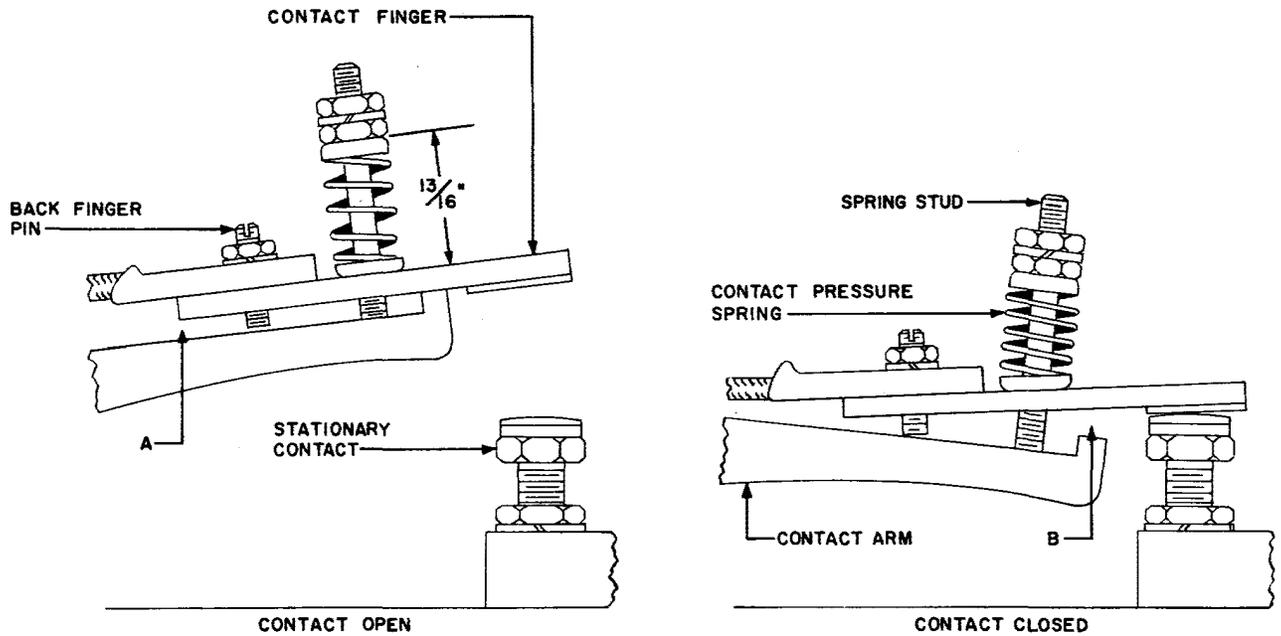

Fig. 5 – Contact Adjustment for Butt-Type Main Contacts —
(3) *Butt-Type Main Contacts — See Fig. 5:*